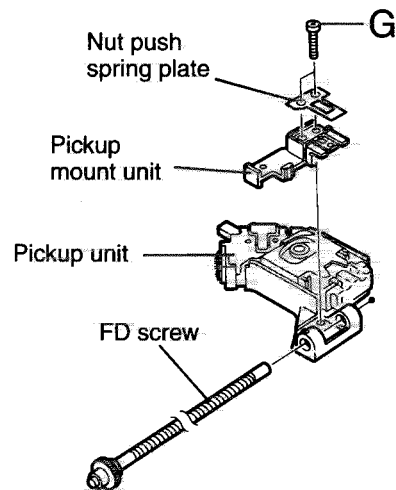

Fig.13
8. By removing the two screw G retaining the pickup unit, dismount the nut push spring plate and pickup mount nut (See Fig.13).
9. Remove the FD screw from the pickup unit (See Fig.13).